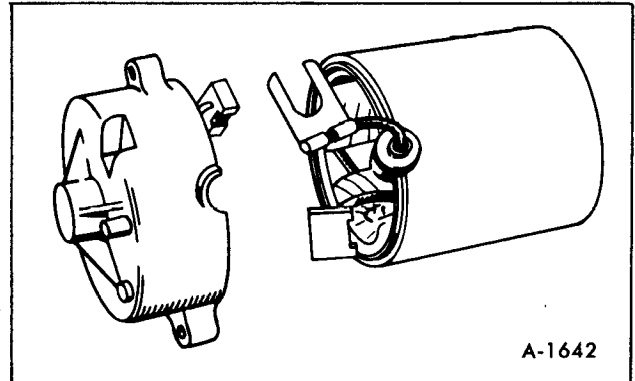

Figure 53—Separating Yoke and Rear Bracket
5. Removing the insulated brush from the brush holder permits separation of the rear bracket from the yoke (figure 53).